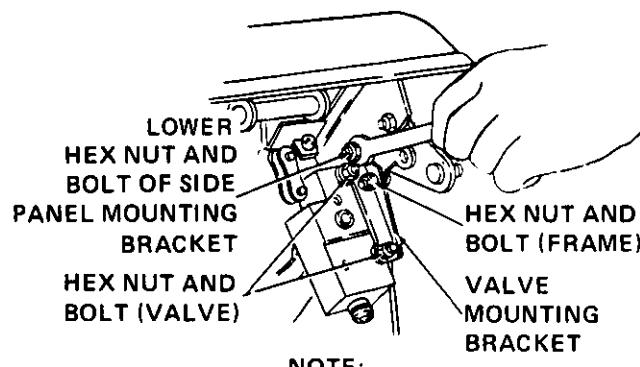

Figure 11
2. Remove and discard the lower hex nut and bolt (Figure 11) from the left side panel mounting bracket.
4. Remove and retain the hex nut and bolt securing the top of the valve mounting bracket to the frame. Retain the bracket. Refer to Figure 11.